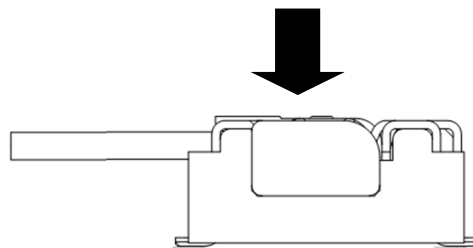

Fig. 6 実装状態での筐体押さえ荷重 (Press Load for Mated Connector)
- You may put a stopper above the mated cable connector to prevent coming out. Use recommended loads to apply on the connector, and the stopper must apply on the top surface of connectors as shown as Fig.6.